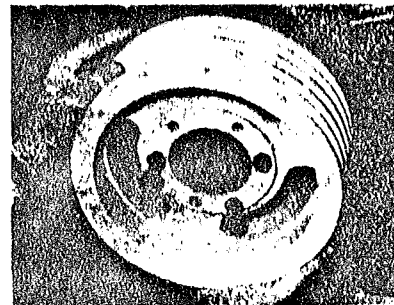

Fig. 5
3. Remove mating part from bushing and, if necessary, bushing from shaft. If bushing won't slip off shaft, wedge screwdriver blade in saw cut to overcome tightness. Fig. 5.